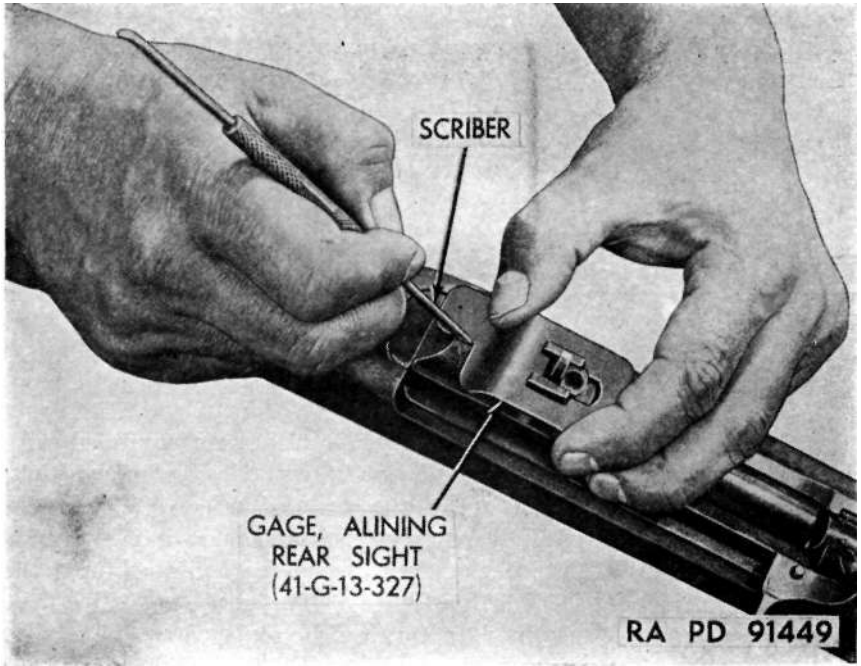
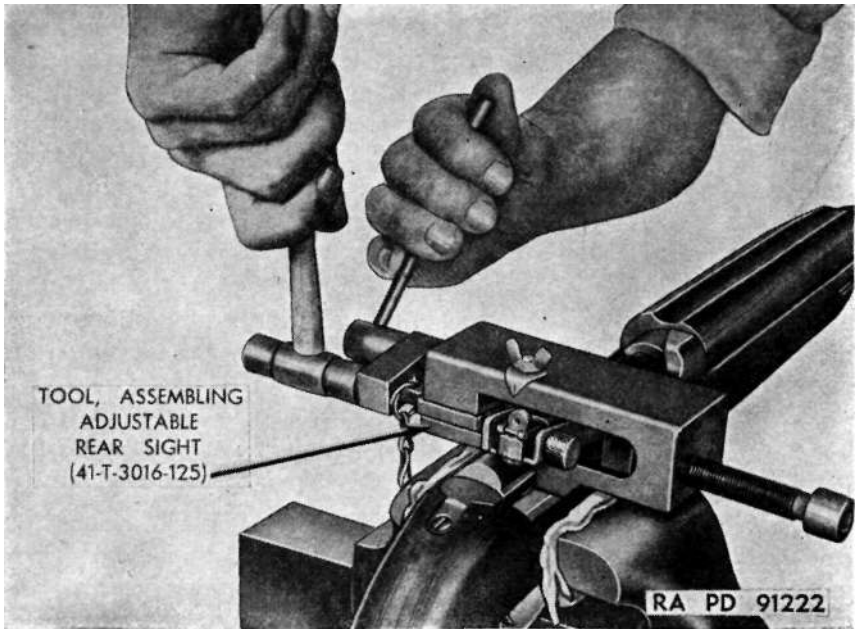

Figure 37. Scribing mark for replacement of rear sight.
Figure 38. Removing rear sight.
*b. L-TYPE REAR SIGHT.* To remove the L-type rear sight assembly used on carbines of early manufacture, clamp rear end of receiver in a jaw protected vise. Place rear sight aligning gauge over L-type sight and make a scribe mark on rear of receiver (fig. 37), for use as an alignment mark for installing new sight. Drift the old sight out of dovetail slot from left to right, using a brass drift. (Dovetail tapers to left. The letter "S" is stamped on the left face of the base to denote small end of taper. On carbines of recent manufacture the base is staked in place).
*c. ADJUSTABLE REAR SIGHT.* (1) Make a scribe mark on the receiver directly opposite long line on index plate for proper alignment in assembly.
(2) Place assembling tool on the receiver with the right-hand jack screw retracted to the extreme position and out of the way. (See fig. 38.)
(3) Remove sight by placing guide of assembling tool against the side of the sight, put connector in place in dovetail guide, and tighten left-hand jack screw. When pressure becomes excessive, tap connector with a brass hammer and take up slack until sight is removed.